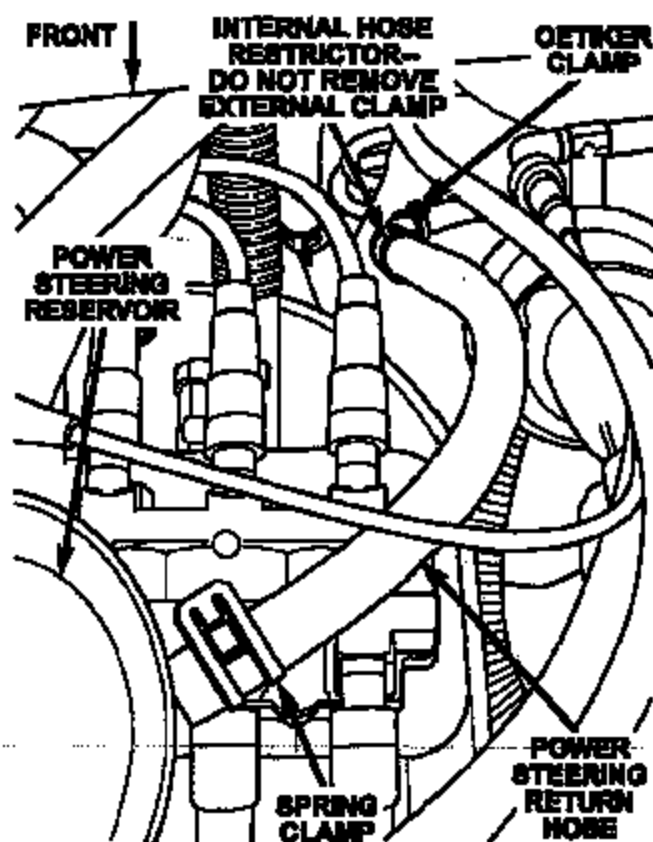

Figure 1
4. Locate the upper power steering return hose that connects the steering gear to the reservoir (Figure 1).
5. Using hose clamp pliers, slide the hose clamp off of the reservoir end of the hose then disconnect the hose from the reservoir (Figure 1).
6. Using side cutters, remove the oetiker clamp from the other end of the hose then disconnect the hose from the tube section of the return line (Figure 1). Discard the hose and clamps.
7. Connect the supplied hose assembly to the tube section of the return line and to the reservoir (Figure 1).
9. Using hose clamp pliers, slide the spring clamp at the reservoir end of the hose into position (Figure 1).